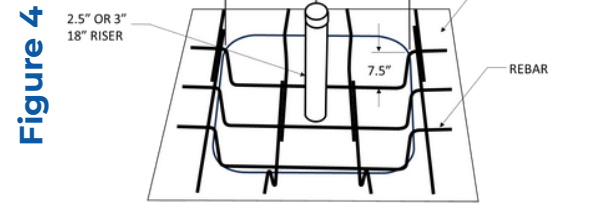

Figure 4
a. Rebar Clearance to Drain: Steel rebar should be bent so that the steel runs half-way between the drain and the bottom of the trench. (See Figure 4).